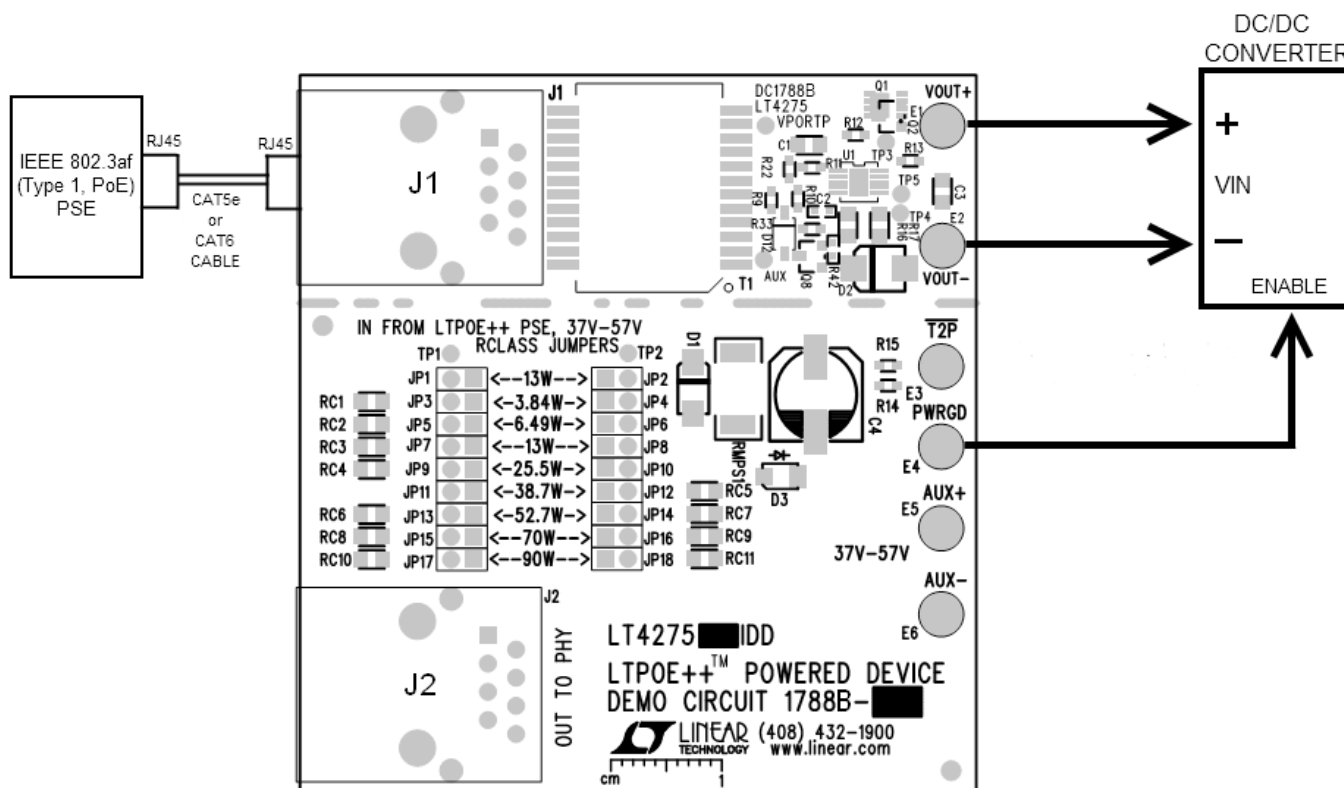

Figure 4. Setup Diagram for the DC1788B-C with a DC/DC Converter and a Type 1 PSE
1. Refer to Figure 4 to evaluate the DC1788B-C with a DC/DC converter. If a resistive load is used to evaluate the DC1788B-C, connect the load by hand between VOUT+ and VOUT- after the LED (D3) is lit. It is recommended to disconnect the resistive load before powering down the DC1788B-C, so at the next turn on the load is disconnected. If the load is not connected and disconnected by hand properly, the PD may not power on. Contact field applications engineers for further details.